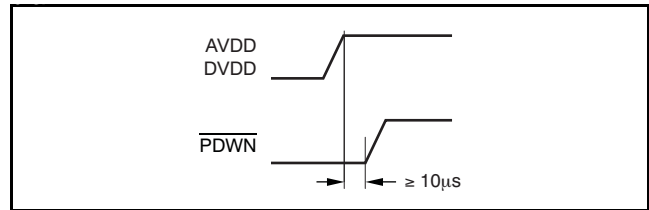
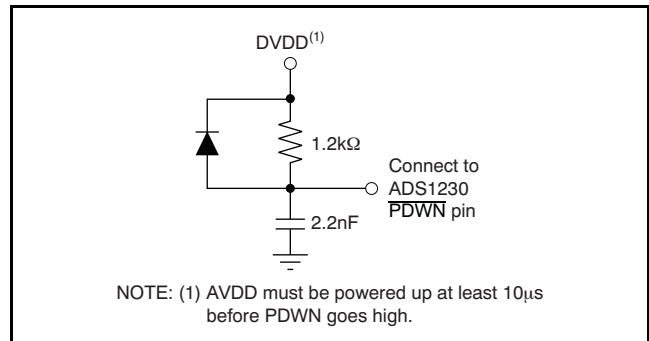

Figure 30. Power-Up Timing Sequence
Figure 31. RC Delay Circuit
When powering up the ADS1230, AVDD and DVDD must be powered up before the PDWN pin goes high, as shown in Figure 30. If PDWN is not controlled by a microprocessor, a simple RC delay circuit must be implemented, as shown in Figure 31.
- Added *Power-Up Sequence* section with new text and two new figures (*Figure 30* and *Figure 31*) 19